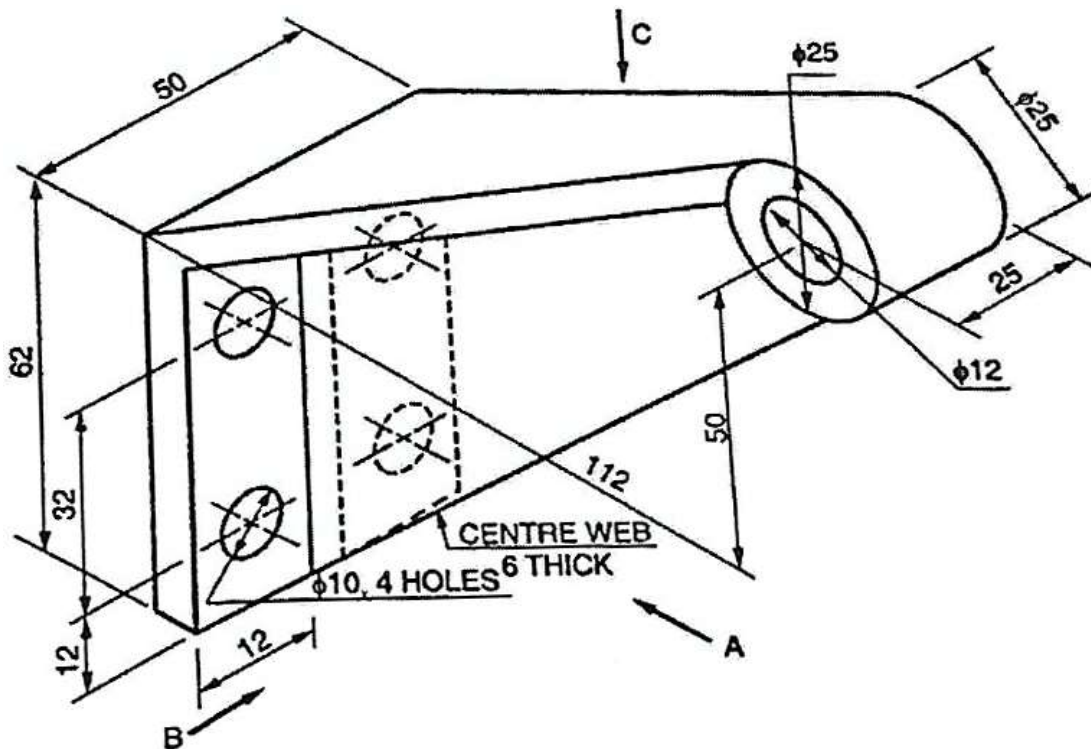

Figure : 1
3. Fig. 1 shows the linkage bracket. Draw the elevation in the direction of C.